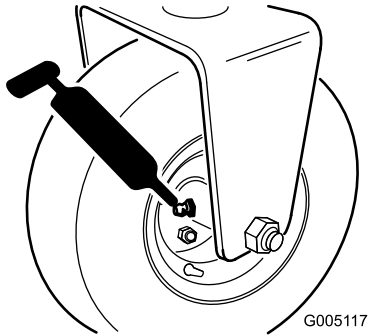

Figure 35
- Rear roller hub assembly or, if equipped with a 3-wheel drive kits, rear wheel roller clutches and external ball bearing (1) (Figure 35)